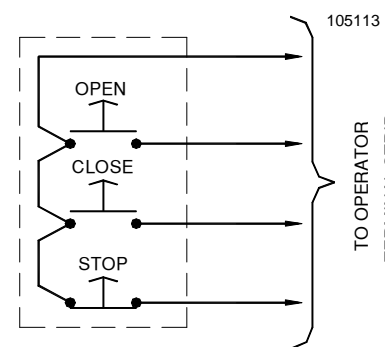
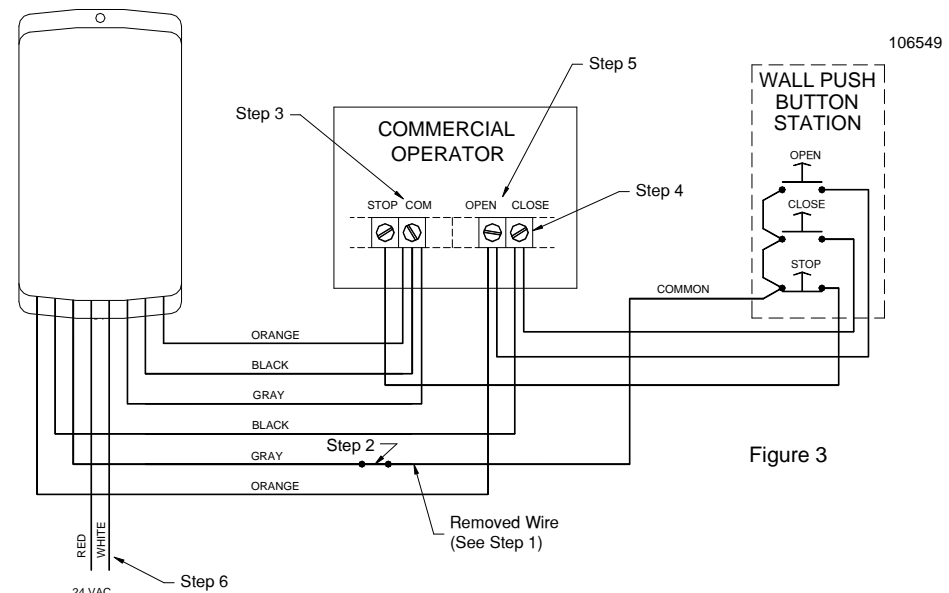

Figure 2
Figure 3
- Check the wire & connections in the STOP circuit. Refer to Figure 3.
Typical 4-wire 3-button stations are wired as shown in Figure 2. Number 18 gauge wire or heavier must be used for wiring the control stations and the MVP-831E receiver to the door operator. Smaller gauge wire may cause operational problems, especially when multiple 3-button stations are used. For typical installations the MVP-RE receiver is mounted near the door operator, away from any high voltage conduits or steel support beams. For wiring, follow the steps below and refer to Figure 3.